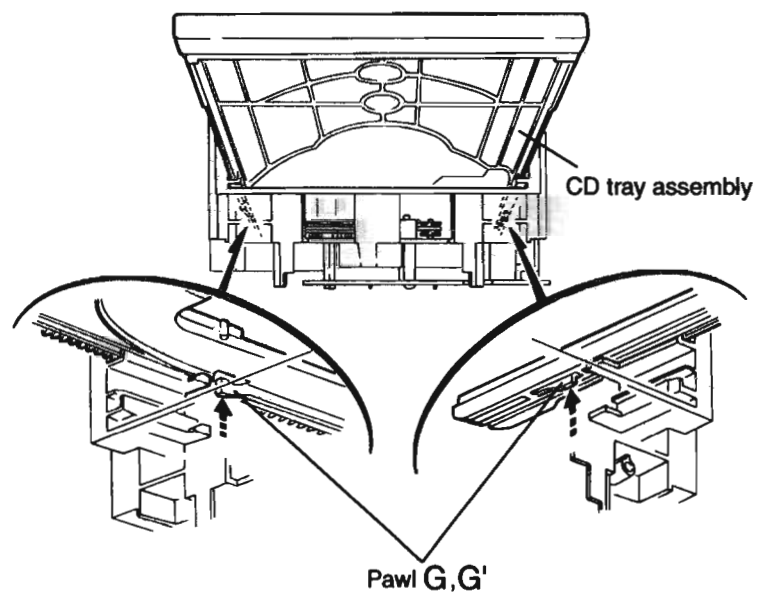

Fig.9
15. At the position where the CD tray assembly has stopped, pull out the CD tray assembly while pressing the two pawls "G and G" on the back side of CD tray assembly(See Fig.9). In this case, it is easy to pull out the assembly when it is pulled out first from the stage CD tray assembly.